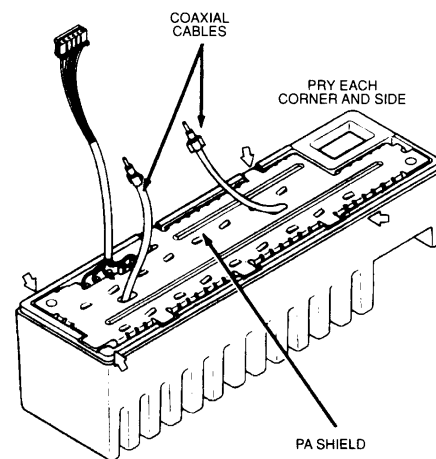

Figure 1-7.
1. Remove the power amplifier shield by carefully prying each corner and side until you can slide the shield off easily (Figure 1-7).